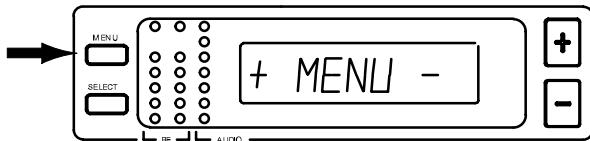

FIGURE 11
2. Press the MENU button. The “+ MENU –” display appears, as shown in Figure 11.